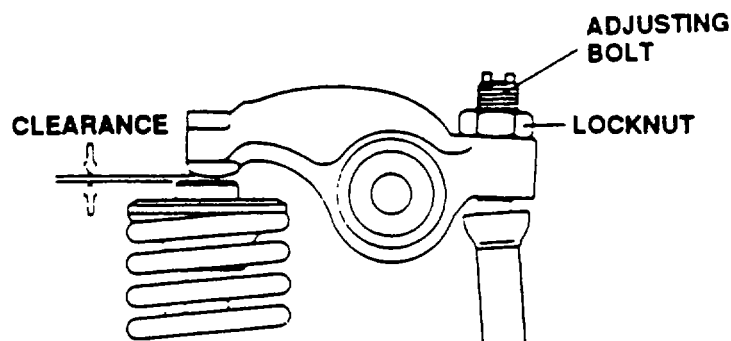

Figure 5-9. Adjusting Valve Clearance.
- (1) Turn flywheel so "T" mark on flywheel aligns with alignment mark on cylinder block.
- (2) Slightly rotate flywheel (approximately 20 degrees in both directions). If valves move up and down, this is the exhaust top dead center. Do not adjust the valve clearance with the flywheel in this position.
- (3) Give flywheel another turn until "T" mark on flywheel aligns with alignment mark on cylinder block. Slightly rotate flywheel (approximately 20 degrees in both directions). If valves do not move up and down, the flywheel is in correct position to check valve clearance.
- (4) Check that "T" mark and alignment mark are aligned correctly.
- (5) Insert screwdriver into adjusting bolt and loosen locknut. Refer to Figure 5-9.
- (6) Turn screwdriver counterclockwise to obtain a clearance. Move valve lever inside for adjustments.
- (7) Insert feeler gauge between valve rocker arm and top of the valve spring cotter.
- (8) While turning the adjusting screw clockwise, slowly slide the feeler gauge back and forth. Stop turning adjusting screw when slight resistance is felt on the feeler gauge.
- (9) Remove feeler gauge and tighten locknut. Keep screwdriver inserted into adjusting screw to prevent adjusting screw from turning.
- (10) Verify valve clearance of 0.006 inch (0.15 mm) after completion.
- (11) Repeat on both intake and exhaust valves.
- (12) After securing both locknuts, check that clearance is still 0.006 inch (0.15 mm).